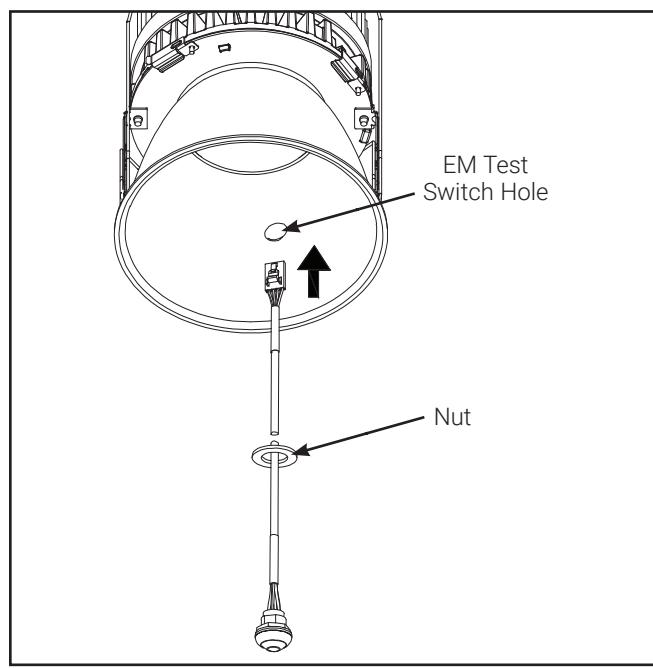

Figure 10.
2. Remove the nut from test switch and install test switch into the trim through a hole in the trim. (Figure 10)